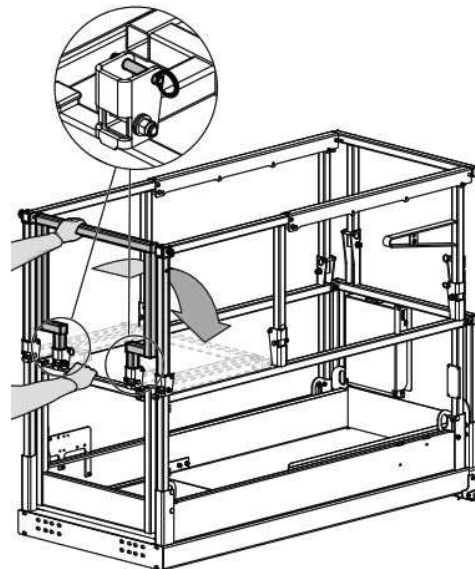

Figure 22 Rear gate folded
17. Hold the rear mid-rail with one hand, and then fold the rear gate with the other hand. Refer to Figure 22 for the hand positions.
29. Hold the mid-rail of the extension guardrail with one hand, and then fold the extension guardrail with the other hand. Refer to *Figure 22* for the hand positions.